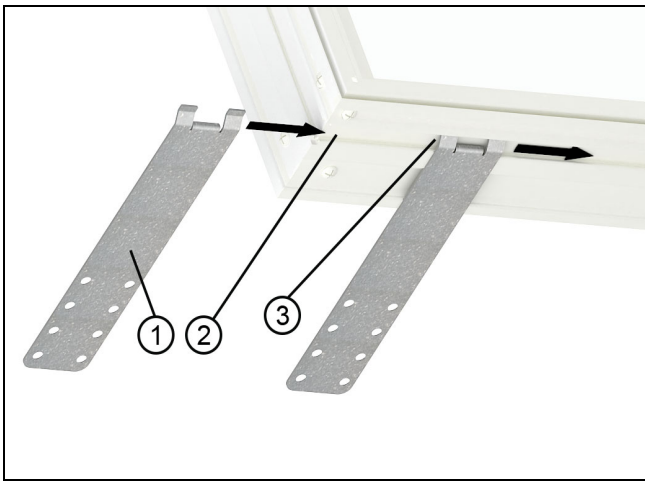

Figure 10
5. Slide flat sill structural brackets into T-slot channel at the sill. Insert enough brackets to ensure a bracket is within 6" of each corner and evenly spaced 12" apart along the sill. Final adjustment of bracket locations should be done once the unit is resting in the opening. See Figure 10.